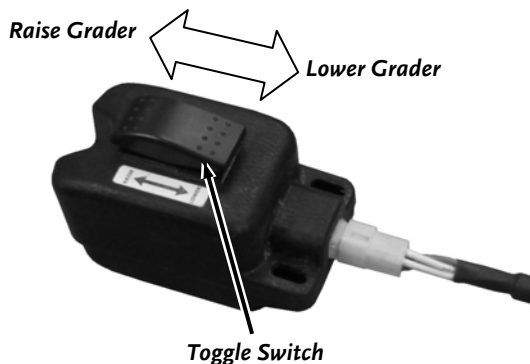

Figure 37
1. Push the Button on the Control Box at the "LOWER" position to lower the Grader fully on the ground (**Figure 37**).